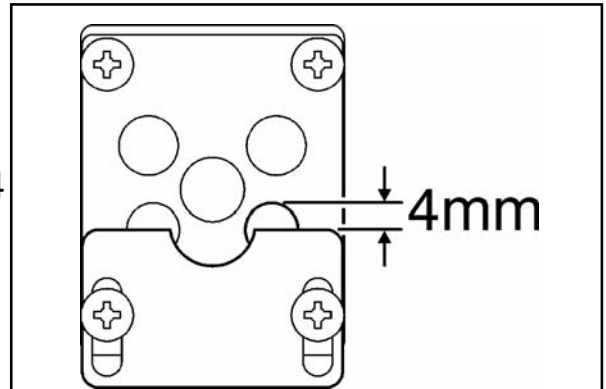

Figure 34. Aeration shutter setting
1. The aeration shutter is factory set and should not require adjustment. If the shutter is not as shown in figure 34 and requires adjustment, loosen the two aeration shutter screws, slide the aeration shutter to the position shown in figure 34 and tighten the fixing screws. LPG fires have a fixed shutter, the setting for this is shown in the guide supplied with the LPG kit.